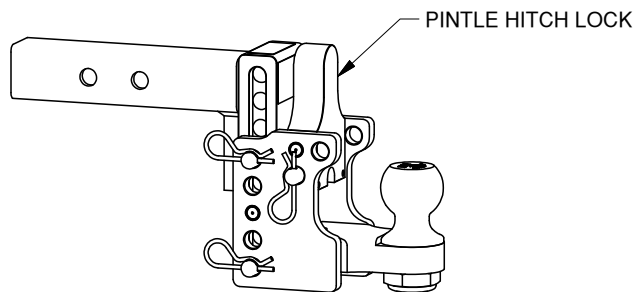

Figure 6: Pintle lock open.
- **Using the Pintle lock.** The Pintle hitch lock sits over the ball and is required when coupling to a ring. The lock has one stainless steel pin which locks it into place. When using the Pintle hitch ball to tow, remove the stainless-steel pin and flip the lock up 90°. The lock should slide down to allow the pin to be placed in a lower hole in the pintle hook. Replace the pin in the lower hole to keep the lock in this position, see Figure 6.